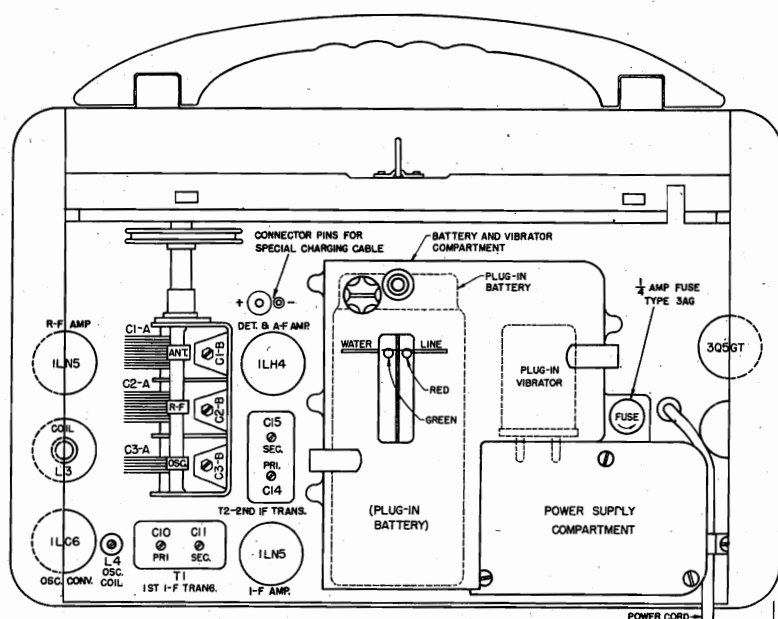

Fig. 3. Tube and Trimmer Location
1. **General.**—The alignment procedure is given in table form for convenience. Reference is made to Fig. 3 for the trimmer locations. The low side of the signal generator should be connected to the chassis of the receiver for i-f alignment; the high side should be connected as indicated in the Alignment Chart. A meter or some other suitable indicating device must be connected to the output of the receiver. Two methods for connecting an output meter are given in later paragraphs.
A charging cable is available, which provides a convenient means of charging the radio battery from an automobile or 6-volt storage battery. The cable plug is inserted over the two pins provided, see Fig. 3, and the plug and socket on the other end of the cable are connected to a 6-volt supply. Complete installation instructions are provided with each cable.
2. Remove the three flat-head screws on the power supply compartment cover (see Fig. 3).